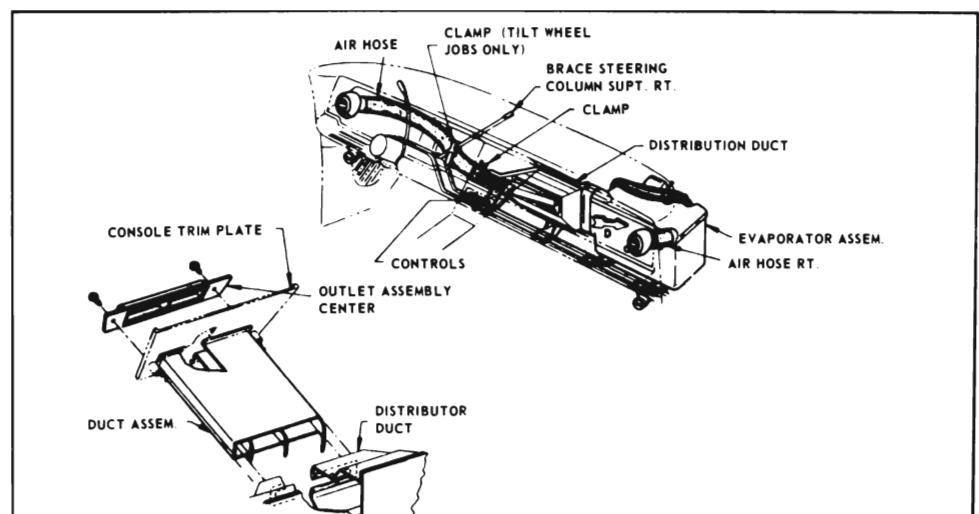

Figure 11-54—Air Conditioner Outlets - 49000 Series
9. Air Outlets. The air conditioner air outlets are entirely separate from the heater outlets and are located as shown in Figures 11-54 and 11-55.